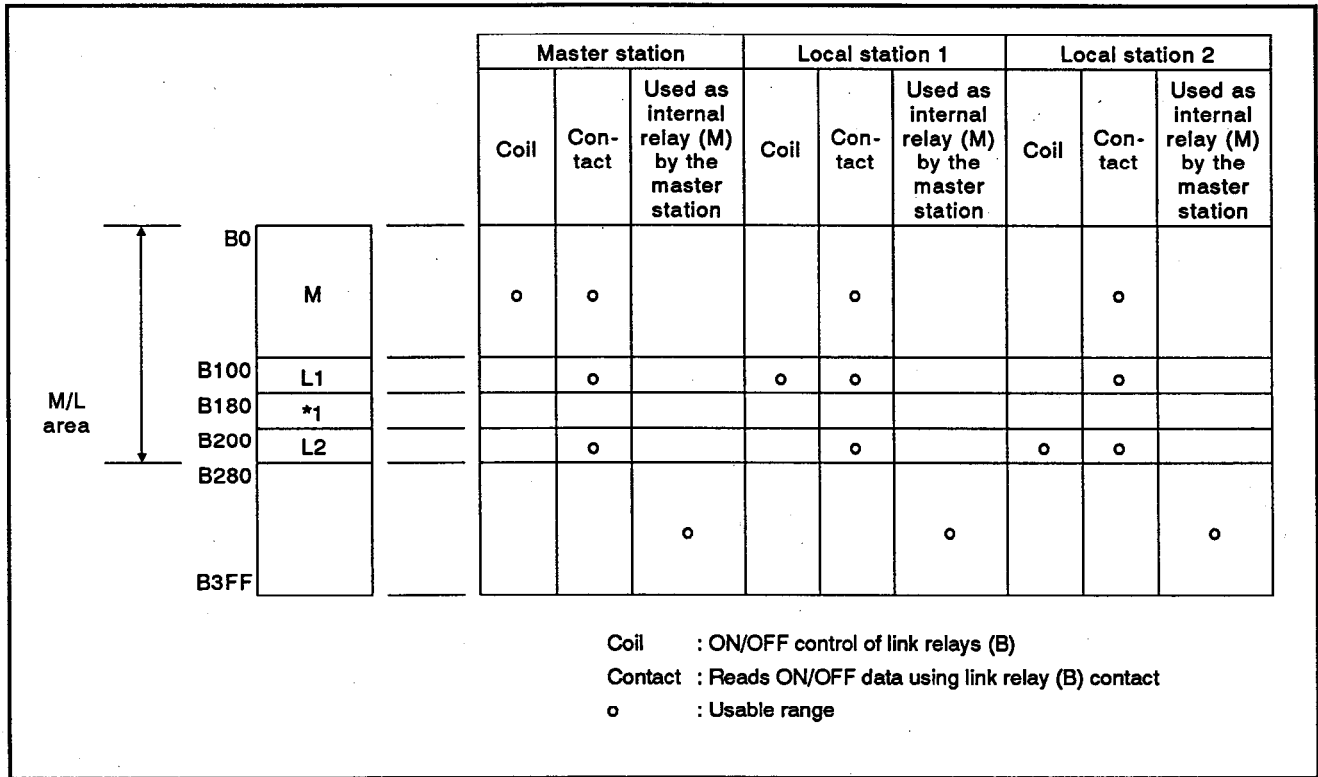

Fig. 7.5 Link Relay (B) Allocation Example
(b) The vacant area marked with an asterisk in the M/L area in Fig. 7.5 cannot be used in place of internal relay (M).